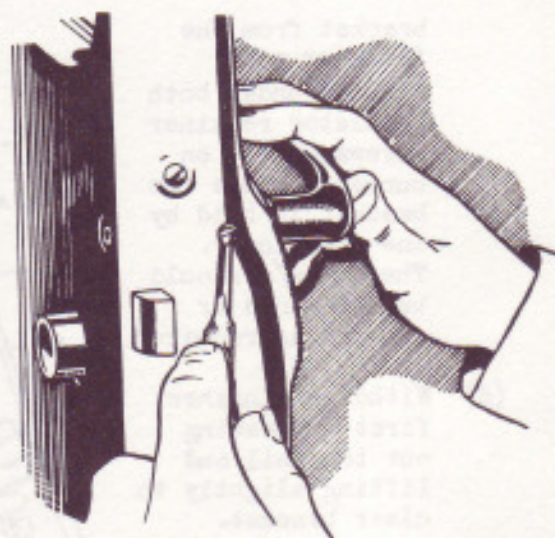

FIG. 6. REMOVING OUTSIDE HANDLE.
- (a) Remove escutcheon locking screw, (See Fig.6), from the edge of the door.